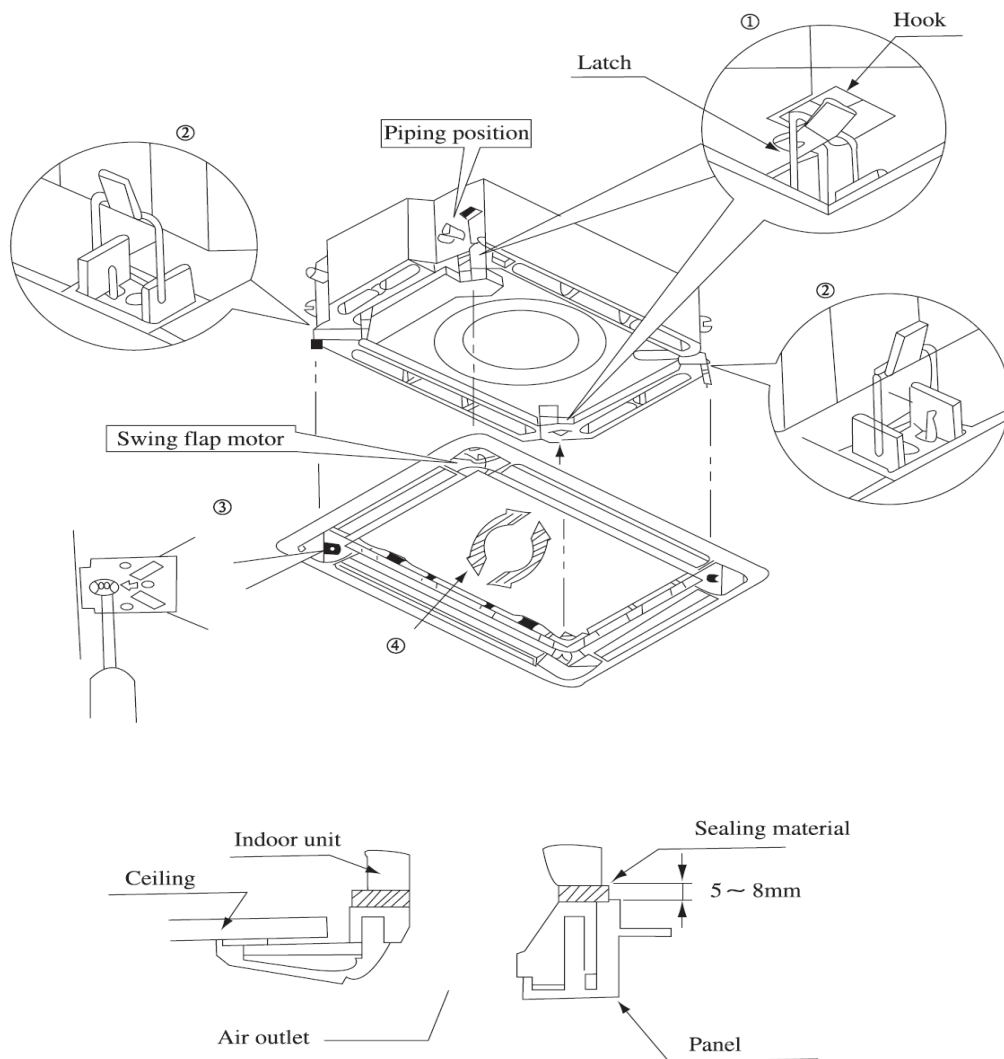

Fig 4
● Set the panel to the indoor unit body by matching the position of the swing flap motor of the decoration panel to the piping position of the indoor unit as shown in fig.4.
- 4、Adjust the panel by turning it to the arrowed direction in Fig.4 so that the ceiling opening is completely covered.